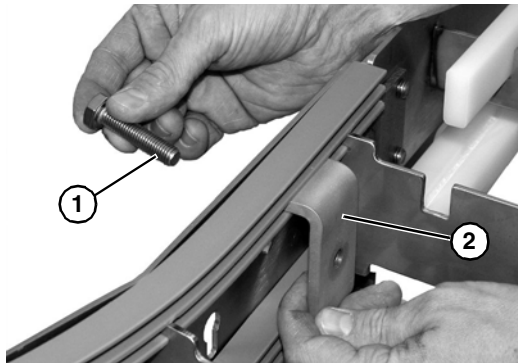

Figure 50
1. Remove the hex head bolt (**Figure 50, item 1**) retaining the wear strip support bracket (**Figure 50, item 2**) from both ends of curve conveyor (for conveyors 4" - 10" wide only).